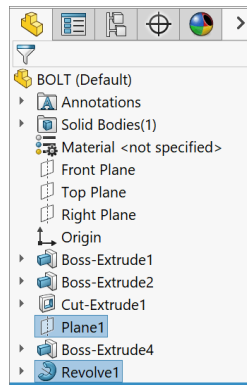

Fig. 35
Step 1. **Ctrl click Plane1** and **Revolve1** feature to select plane and feature, **Fig. 35**.